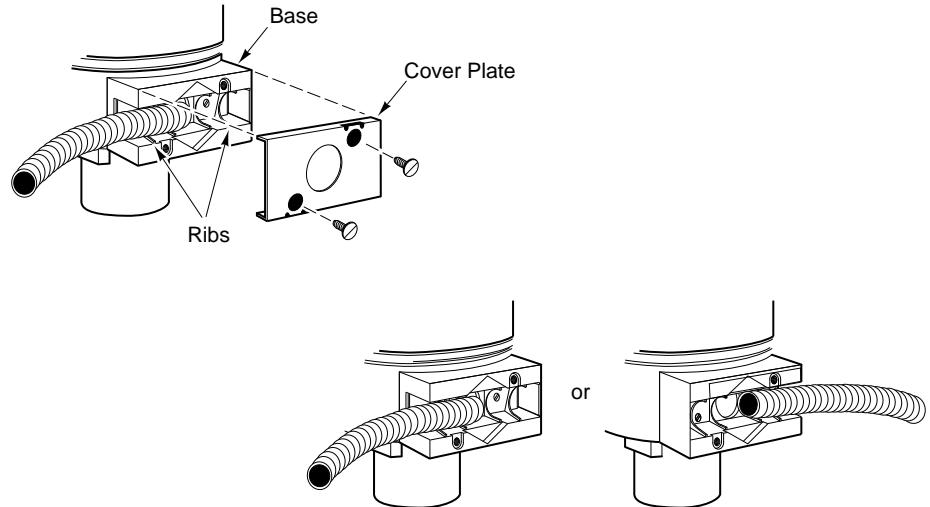
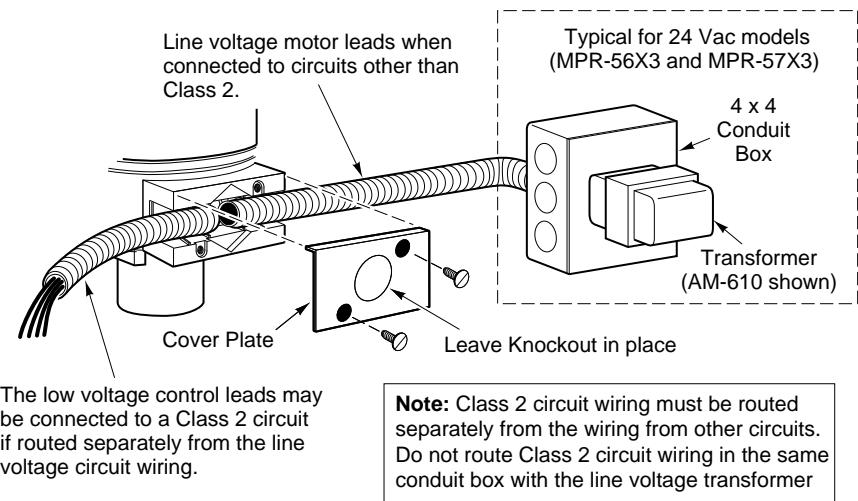

Figure-8 Flexible Conduit Installation to Either Side of Actuator.
Figure-9 MPR-5600 and MPR-5700 Series Wiring with Separation for Class 2 and Line Voltage Circuits.
The control leads may be connected to a Class 2 circuit if routed separately from Class 1 circuit wiring. Refer to Figure-9 .
Line voltage (120 Vac and 240 Vac) power leads must be connected to a Class 1 circuit and routed separately from Class 2 circuit wiring. Refer to Figure-9 .
Flexible conduit may be installed onto one or both sides of the actuator (refer to Figure-8 and Figure-9). Install each conduit as follows:
4. Slip the conduit onto the base, over the ribs. Refer to Figure-8 and Figure-9.